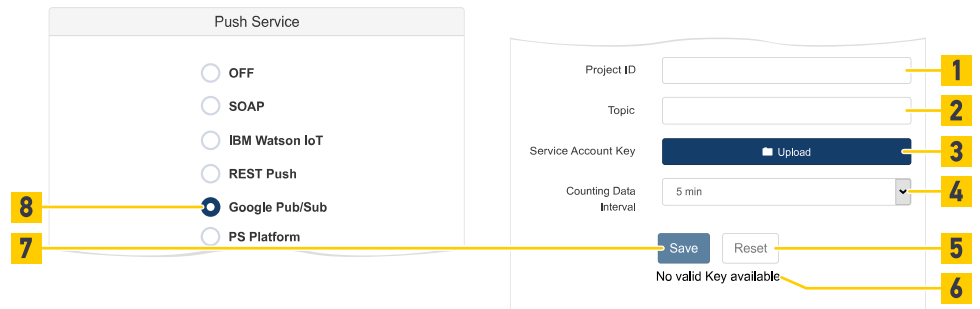

Fig. 116: Push Service - Google Pub/Sub
To enable push service to the Google platform activate Google Pub/Sub (Fig. 116 /8).
- To add the sensor to an Google Platform account enter the Project ID (Fig. 116 /1) and Topic (Fig. 116 /2).
- To upload a Service Account Key click Upload button(Fig. 116 /3). If the key is valid see the state (Fig. 116 /6).
- To send accumulated counting data in these time frames set the Counting Data Interval (Fig. 116 /4).
- To go back to the last saved settings click the Reset button (Fig. 116 /5).
- To save all the settings in the device click the Save button (Fig. 116 /7).